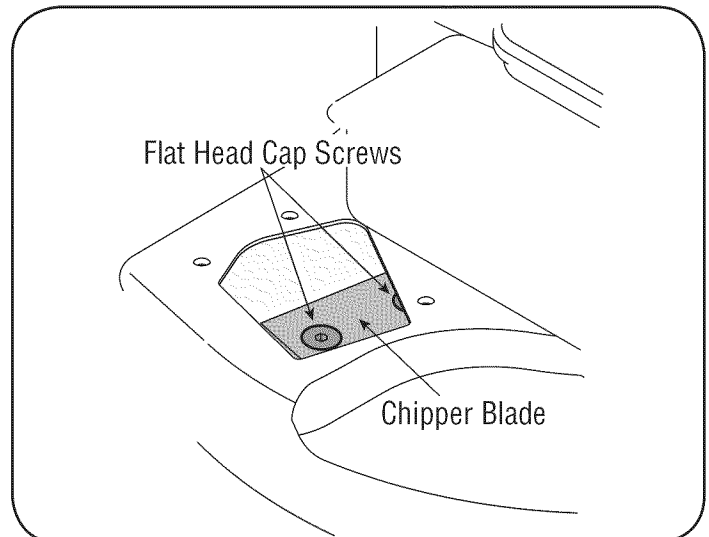

Figure 27
9. Using a 3/16" allen wrench, remove the flat head cap screws that hold the chipper blade to the impeller. These screws are accessible through the opening created when the chipper chute was removed earlier. See Figure 27.